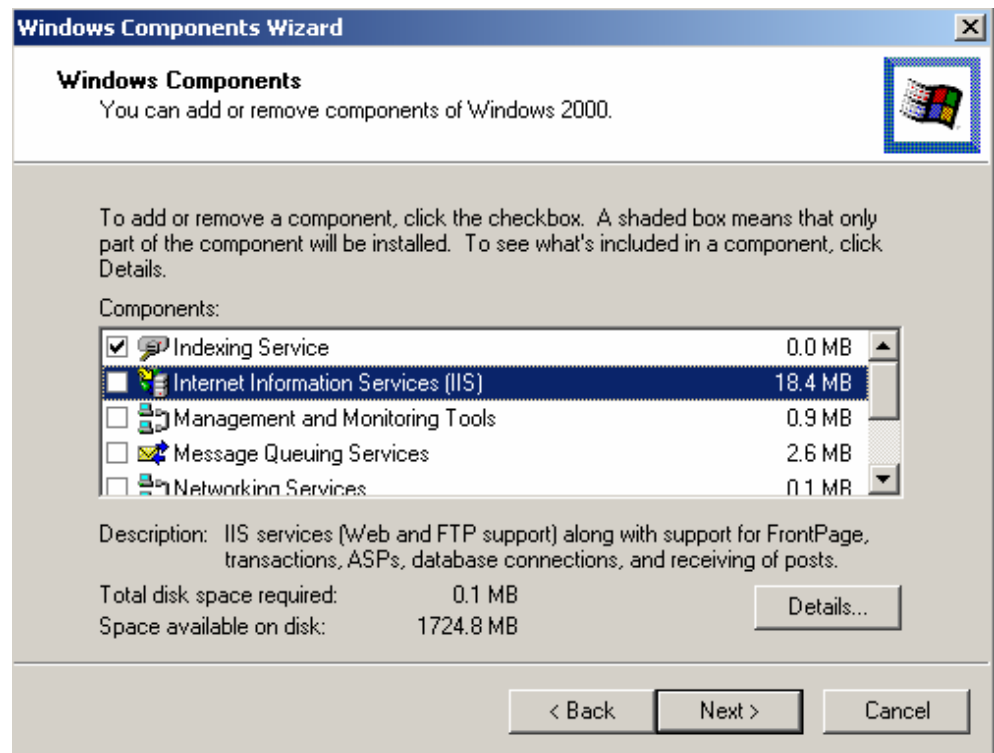

Figure 2.5. Windows Components Wizard Dialog Box
2. The **Windows Components Wizard** dialog box will appear, as shown in **Figure 2.5**. To add IIS, select **Internet Information Services (IIS)** and click on the check box. After you have clicked on the **IIS** check box, the **Windows Components Wizard** dialog box will change its appearance and begin configuring components. Shortly after the configuring begins, you could be notified that additional files are needed.